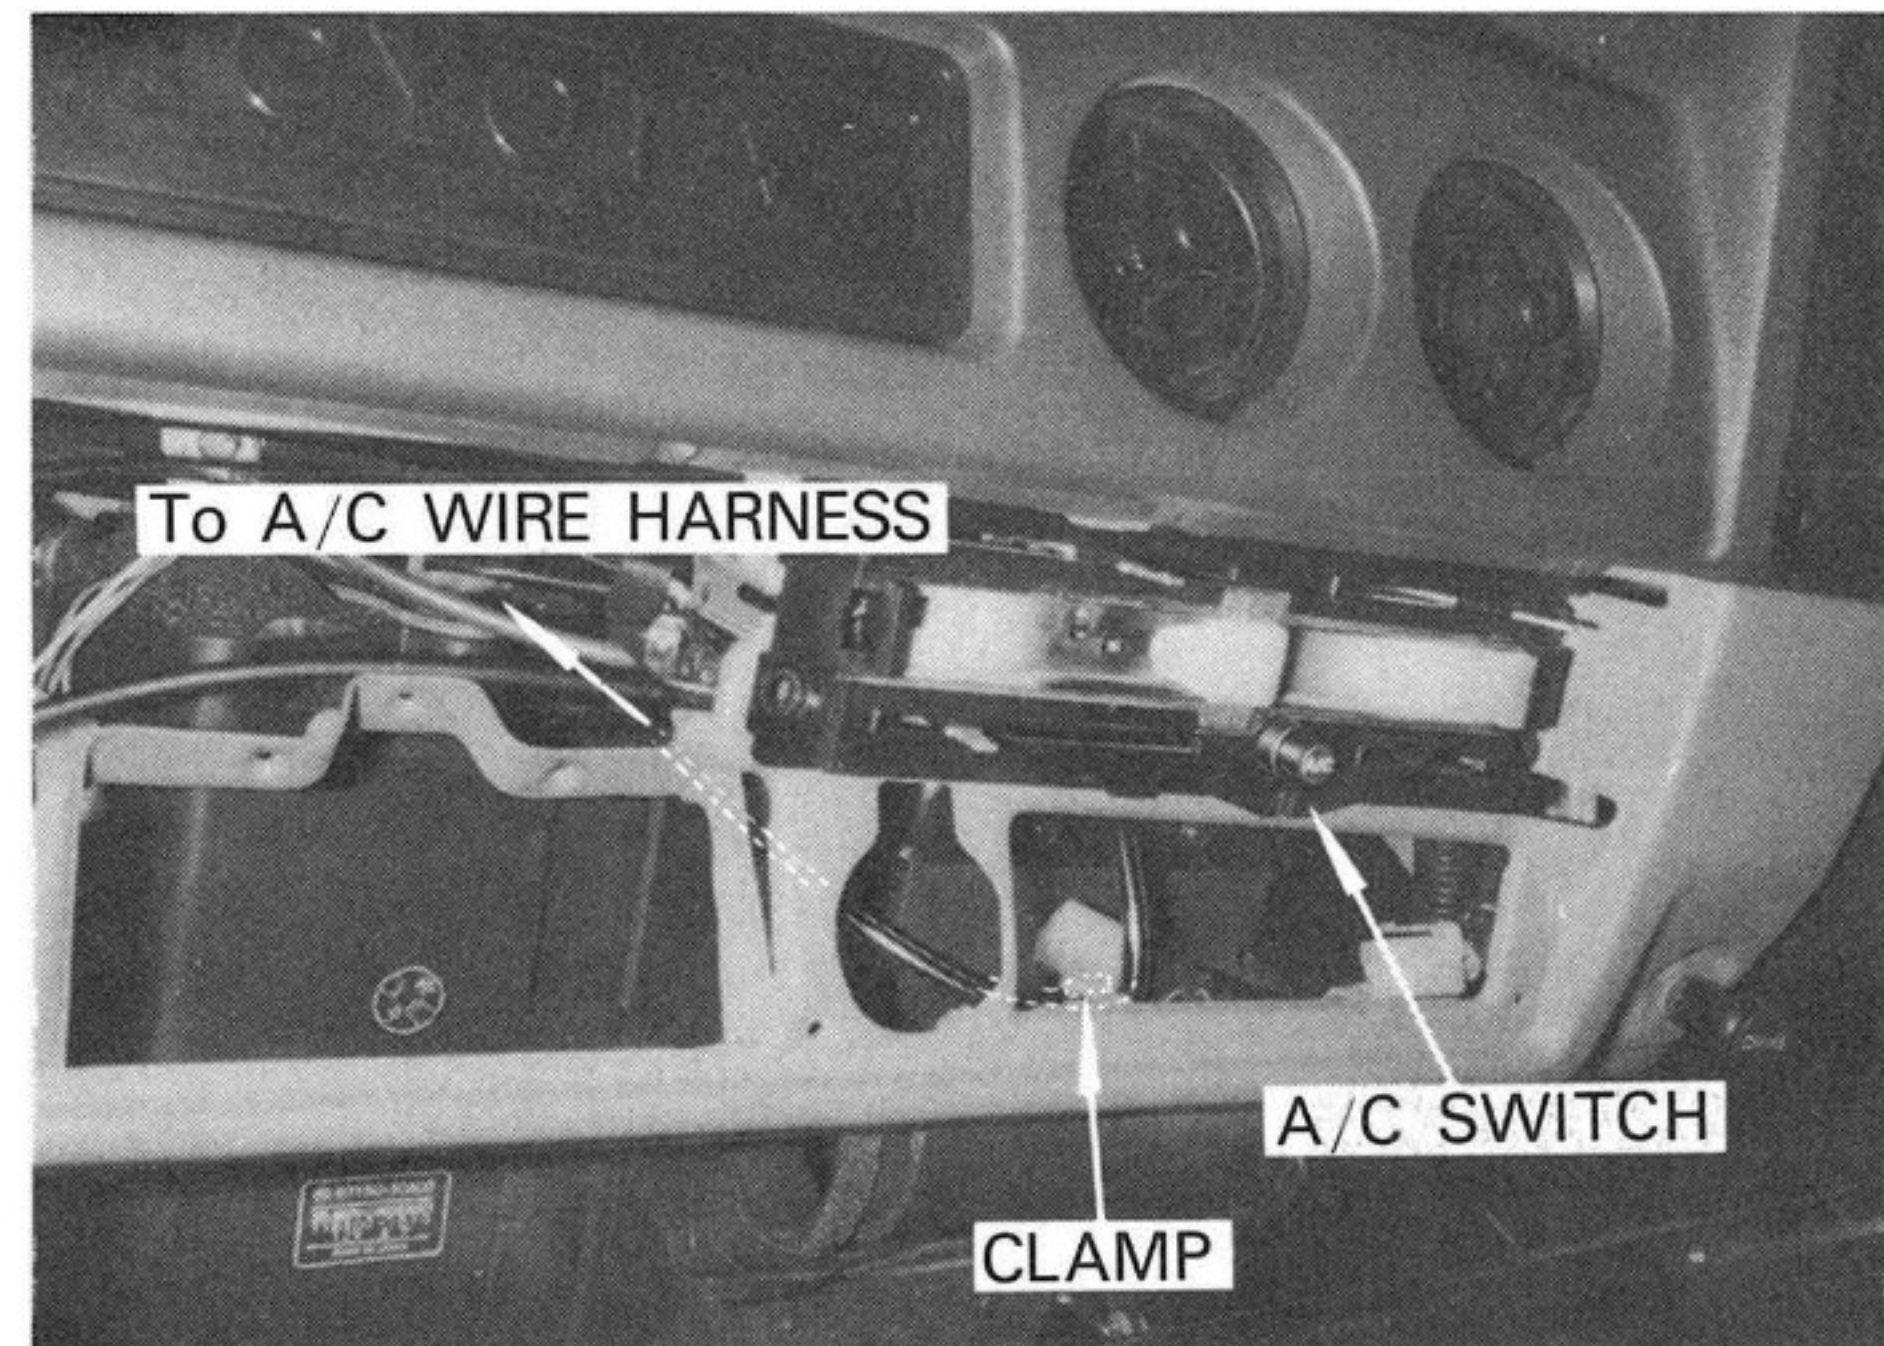

Fig. 11
C) Reinstall the A/C control panel and route the A/C wire harness as shown in Fig. 11.